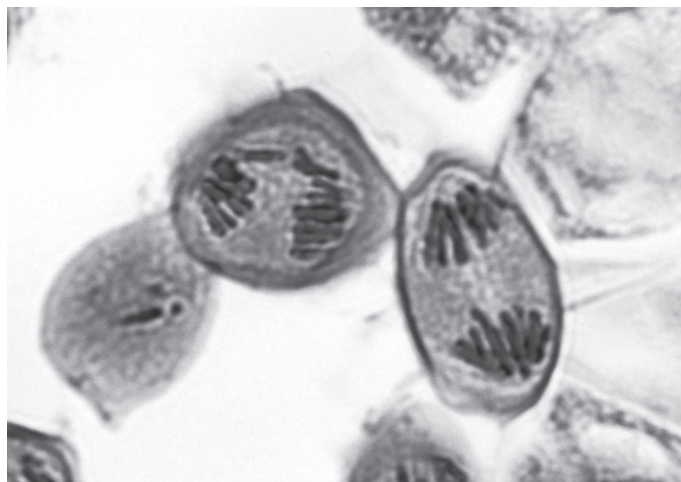

Fig. 2.1
(d) Fig. 2.1 shows three stages in the development of pollen grains.
- (i) Label and annotate the three photomicrographs in Fig. 2.1 to show the different stages in reductional division during meiosis.
- (ii) Explain how the stages indicated in Fig. 2.1 lead to genetic variation.